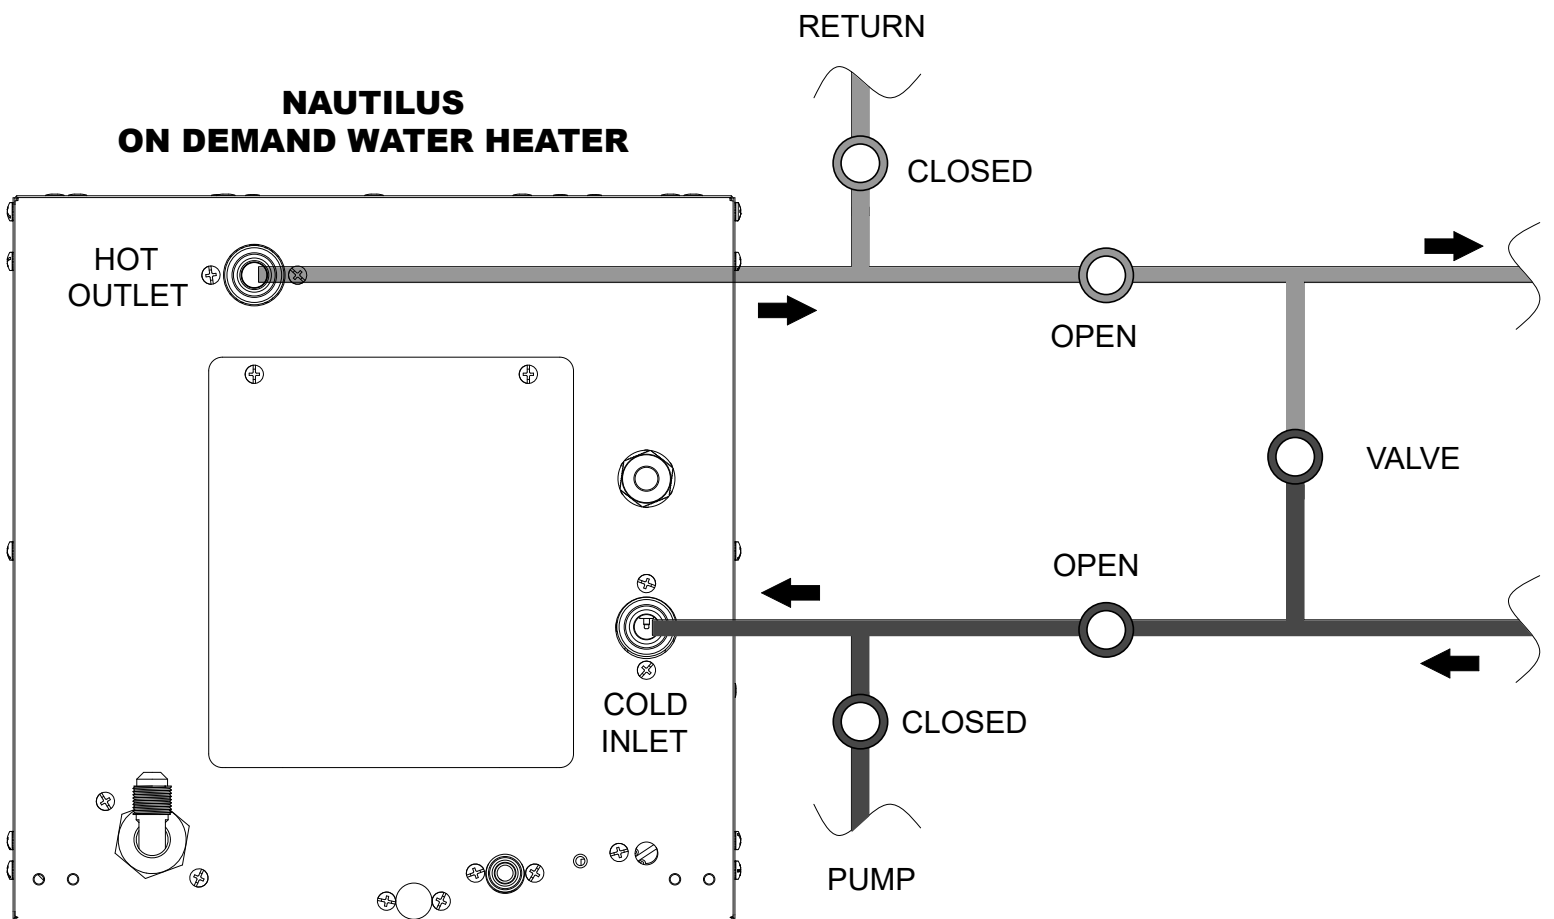

FIGURE 4
- d. Figure 4 shows a 3 valve crossover system in normal operation mode.